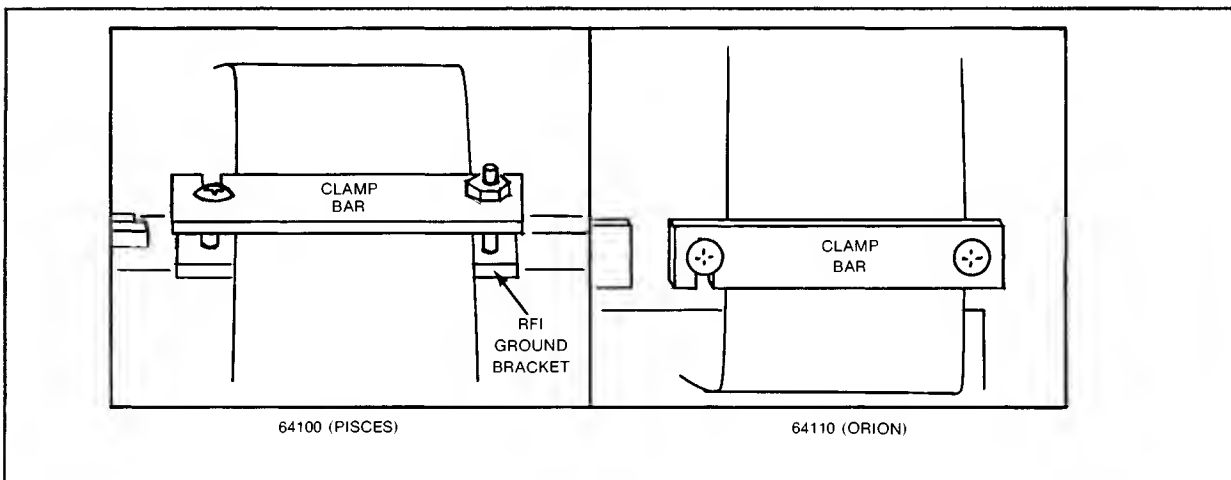

Figure 2-3. RFI Ground Bracket/Clamp Bar
- f. Refer to figure 2-3. If the development station has an RFI ground bracket/clamp bar as shown in the figure, perform the next step. If it does not have an RFI ground bracket/clamp bar, attach the bracket/bar as directed on the following page before going to step 'g'.